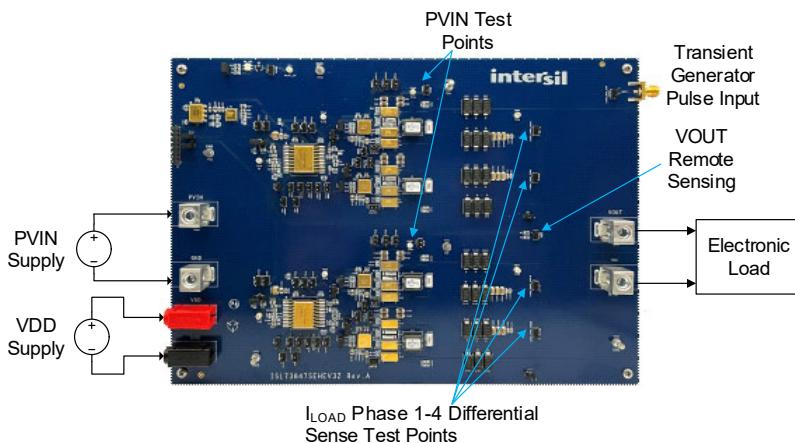

Figure 3. ISL73847SEHEV3Z Board Setup
- Apply a 5V voltage to the PVIN metal banana plug connectors as shown in Figure 3. To monitor PVIN on the board, use TP27 or TP65. TP27 is closer to Phase 1 and 3, TP65 is closer to Phase 2 and 4.
- Apply a 9V to 13.2V voltage to the VDD banana connectors as shown in Figure 3 to use the on-board clock generator. If using an off-board external clock generator, VDD can be 5V to 13.2V.
- If required, a resistor or electronic load can be connected to the VOUT metal banana plug connectors as shown in Figure 3. If using an electronic load, you can add 4W sense lines on the TP29 test jumper.